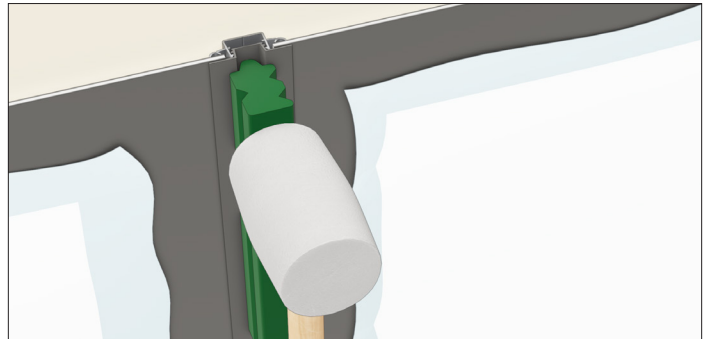

Figure 21.2
19. Install the Q08T top cap by applying dots of external silicone into the EZ.Lock® Engagement channel before you engage the top cap. QuickPanel® HammerBlock™ and a deadblow/mallet to secure top cap in place. (Figure 21.2)